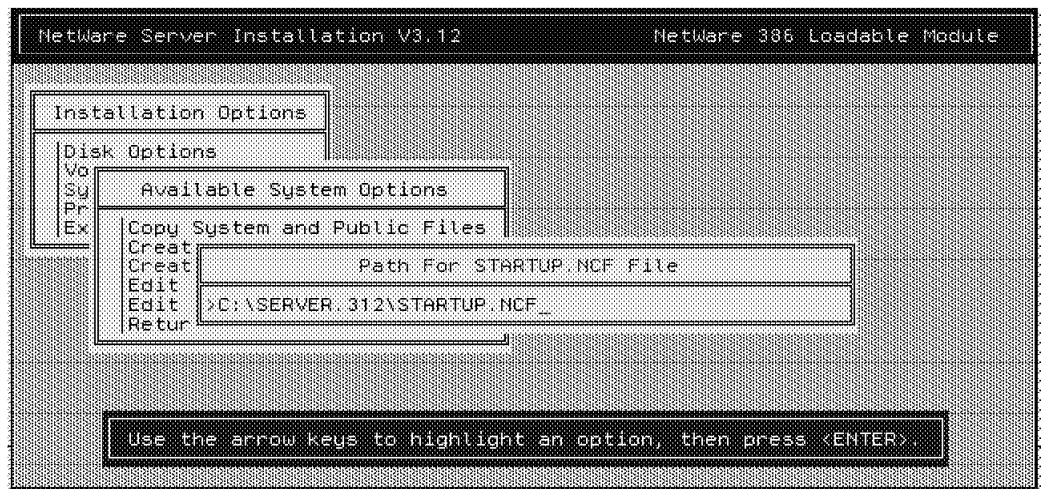

Figure 88. Path for STARTUP.NCF File
44. Press Enter to accept the default path (see Figure 88).